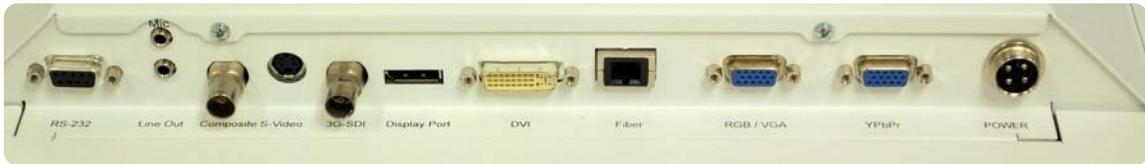

Figure 2 VividImage® T close-up of ports
1. Attaching the VividImage® T monitor to a boom arm requires two (2) people. One person supports the monitor and aligns the mounting holes while a second person physically attaches the monitor to the VESA mount attached to the boom arm.
2. After the monitor is mounted, remove the cable cover and connect the customer supplied video cable(s) and power cord to the appropriate port on the back of the monitor. The ports on the monitor are clearly labeled (see Figure 2). Ensure fiber connections are made prior to powering up the monitor.